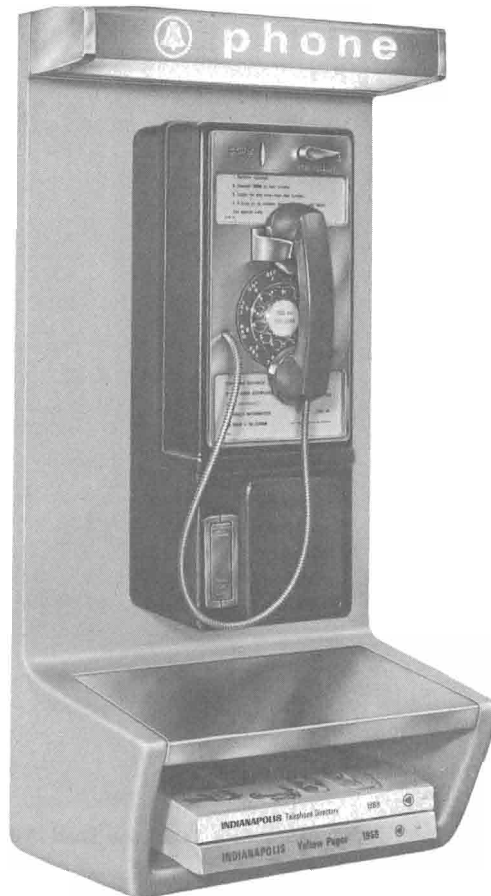
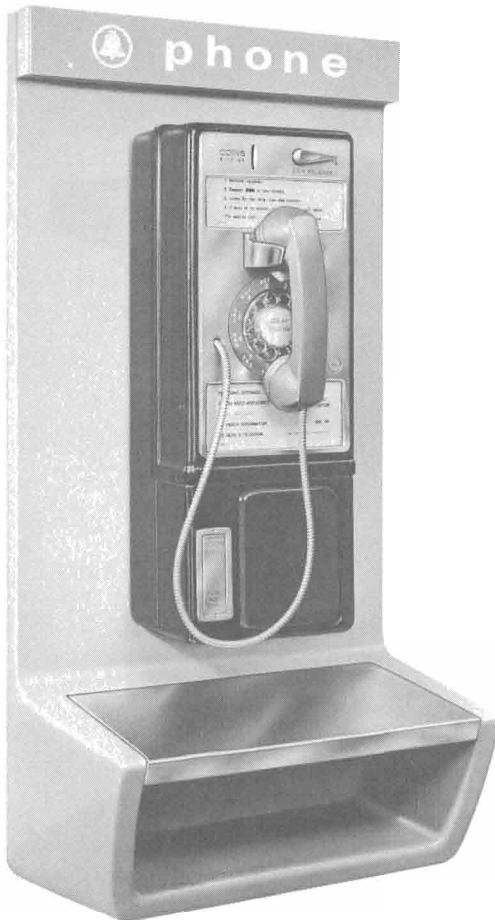

Fig. 1—KS-19945, List 1 Coin Telephone Shelf With 1C1 Coin Telephone Set
Fig. 2—KS-19945, List 3 Coin Telephone Shelf With 1C1 Coin Telephone Set
2.01 The KS-19945 coin telephone shelf (Fig. 1) is a wall mounted Fiberglas reinforced polyester molded unit intended for indoor use only.
2.06 The shelf is designed for a KS-19681, List 9 or List 10 illuminated sign (Fig. 1) or a porcelain enamel nonilluminated sign (Fig. 2).
2.07 The shelf will accept a 1A/1C-type coin telephone set (Fig. 1) or a 236G coin collector (Fig. 3). No provisions are made for using a subscriber set.